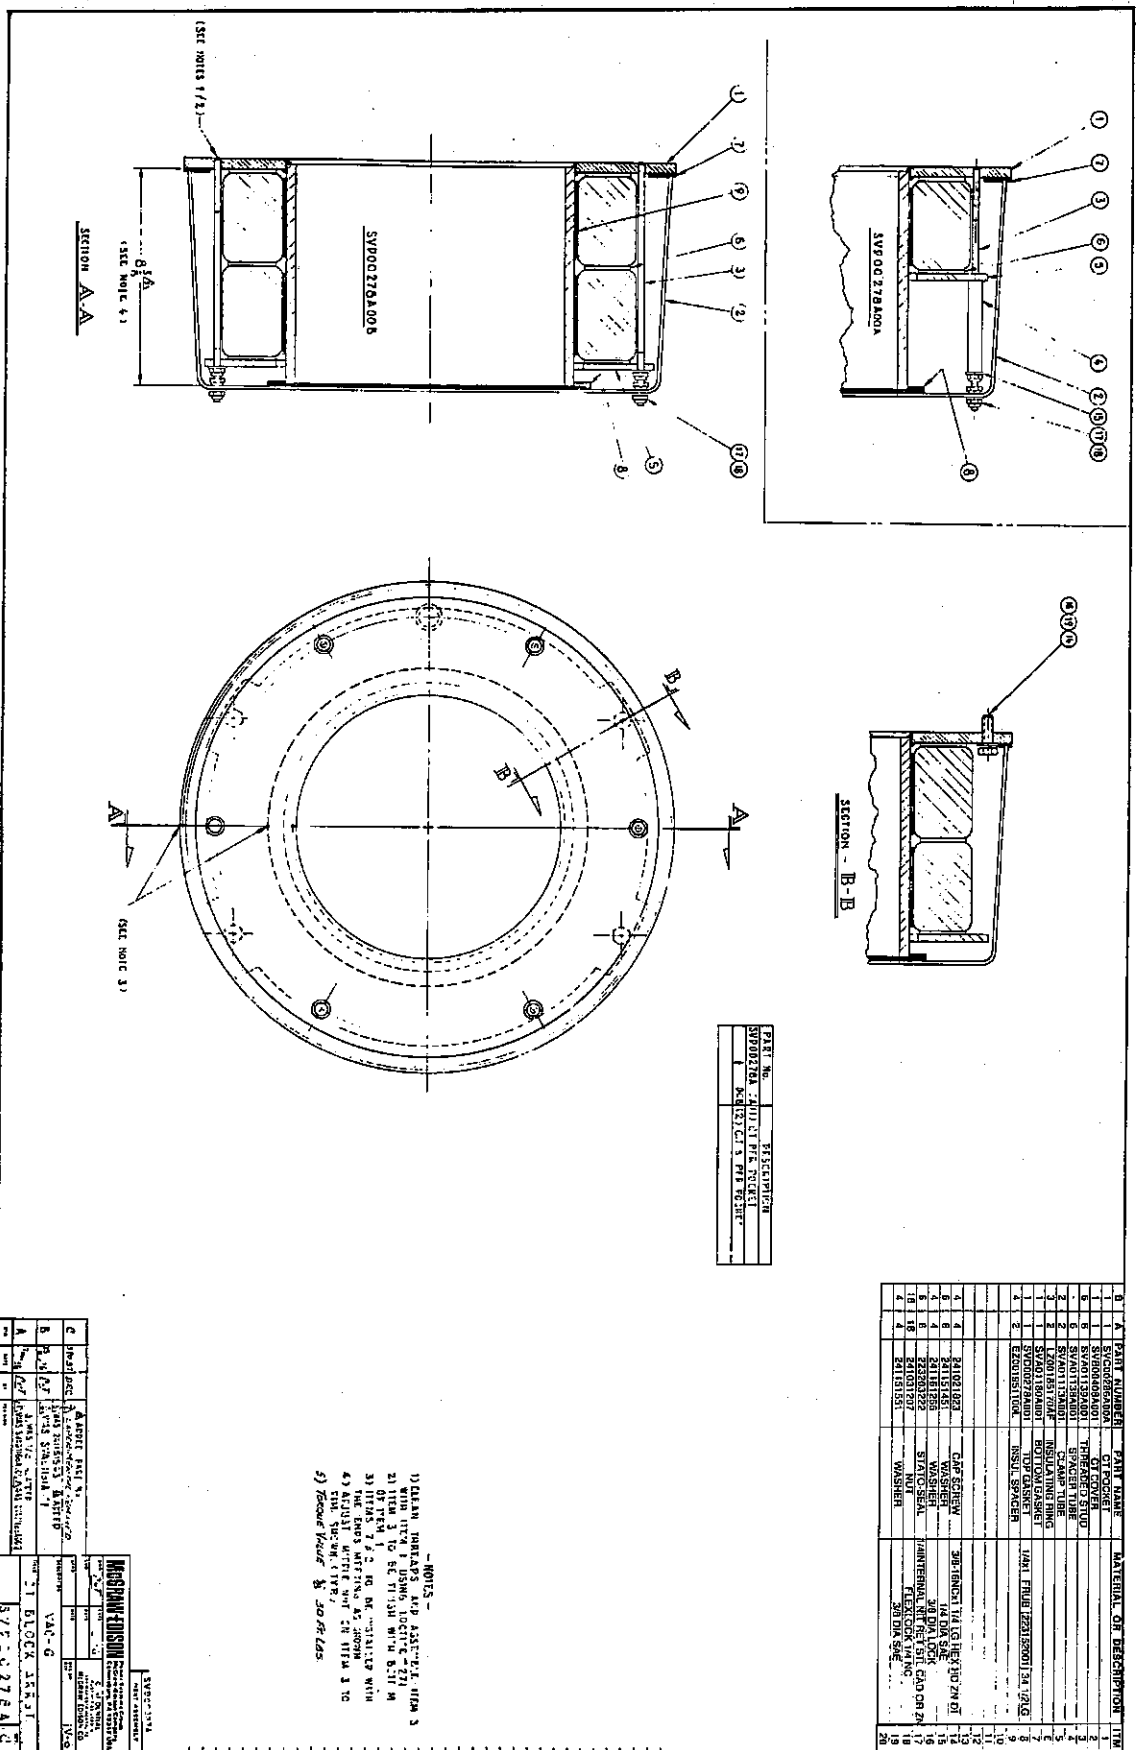

Figure 7.
2. Referring to [(Figure 4-SVD00277A) and (Figure 7-SVD00278A)].
4. Loosen and remove six (6) flexlock nuts. Remove Current Transformer cover by sliding it off the studs. Remaining flexlocks must be loosened and removed along with clamp plate.
5. To install a new bushing transformer, simply reverse steps 2, 3 and 4. Refer to Figure 7 for proper position of insulating rings.